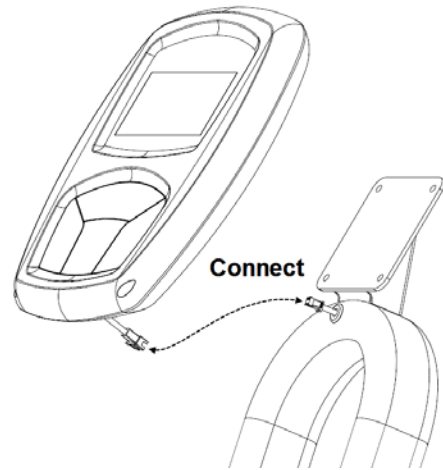

Fig. 7
6. Install three bolts with washers (Fig. 7) thru each neck joint hole and torque all bolts to their final value. Repeat this for the opposite side.